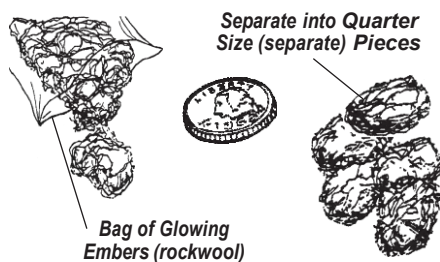

Figure 54
5. **Placement of Glowing Embers** - Separate the Embers (rockwool) into pieces about the size of a quarter (see *Figure 54*). Keep the pieces fluffed up, not matted. Distribute these pieces over the surface of the burner, as shown in *Figure 58*. Do not use more than is necessary. Ensure that the main burner ports remain uncovered by the ember material.